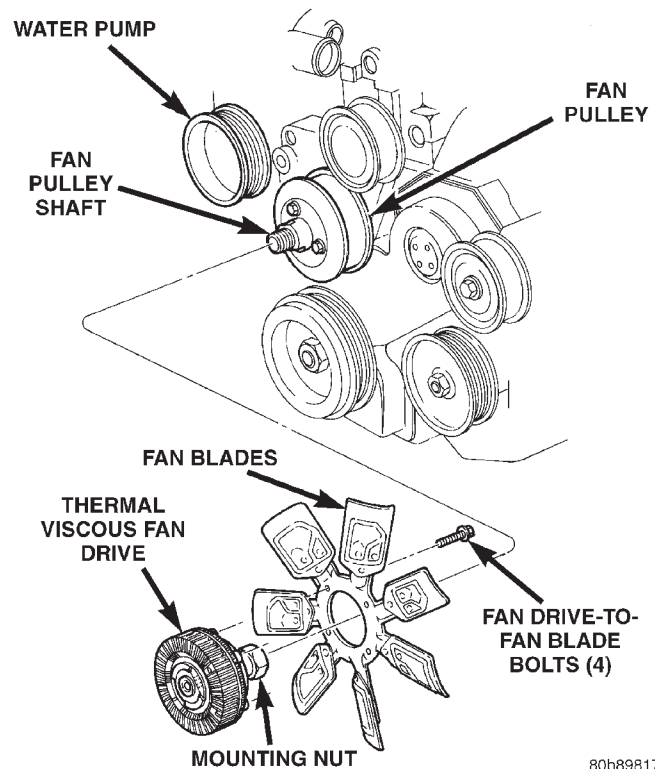

Fig. 17 Thermal Viscous Fan Drive and Blade Assembly
(1) Disconnect negative battery cable from battery.
(2) The thermal viscous fan drive/fan blade assembly is attached (threaded) to the fan pulley shaft (Fig. 17). Remove fan blade/viscous fan drive assembly from fan pulley by turning mounting nut counterclockwise as viewed from front. Threads on viscous fan drive are **RIGHT HAND**. Snap-On® 36 MM Fan Wrenches (number SP346) can be used to turn the mounting nut and to hold the fan pulley from rotating.
(3) Do not attempt to remove fan/viscous fan drive assembly from vehicle at this time.
(4) Do not unbolt fan blade assembly from viscous fan drive at this time.
(9) Remove four bolts securing fan blade assembly to viscous fan drive (Fig. 17).
(1) Install fan blade assembly to viscous fan drive. Tighten bolts (Fig. 17) to 23 N·m (200 in. lbs.) torque.
(2) Position fan shroud and fan blade/viscous fan drive assembly to vehicle as a complete unit.
(3) Install and tighten fan shroud bolts to 3 N·m (31 in. lbs.) torque.
(4) Install fan blade/viscous fan drive assembly to fan pulley shaft (Fig. 17).
(5) Connect negative battery cable.